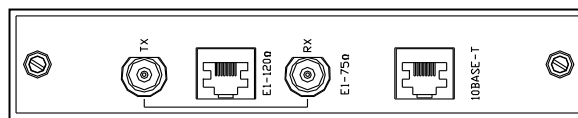

Figure 7 Panel of FE1/100BASE-TX bridge module
- The small panel of FE1/100BASE-TX bridge module, as shown in figure 7.